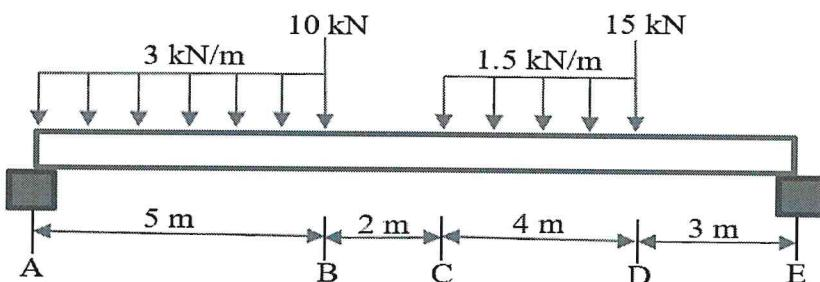

Figure 2 / Rajah 2
A beam with 14 m length is a simply supported and fixed at both ends. The loads are applied as shown in Figure 2 below.
- CLO1    a) Referring to Figure 2, with the aid of free body diagram for the beam, express the value of reaction force.